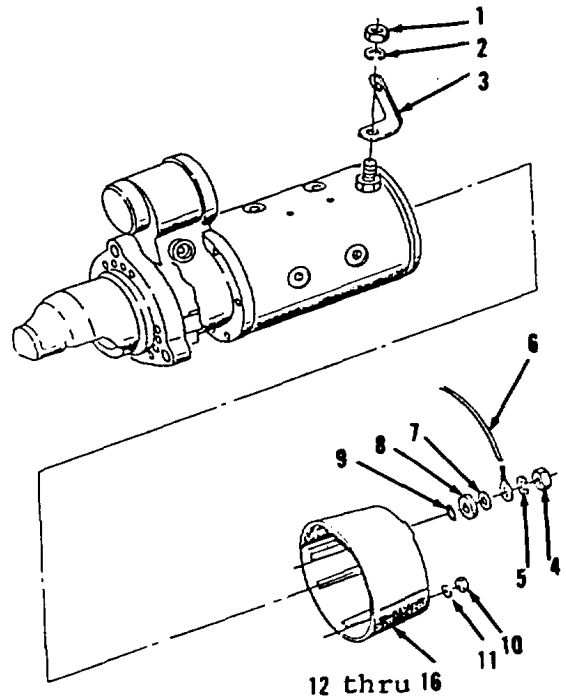

Figure 4-71.
2. Remove nut (1), lockwasher (2) and bus bar (3, Figure 4-71).
3. Remove nut (4) and lockwasher (5).